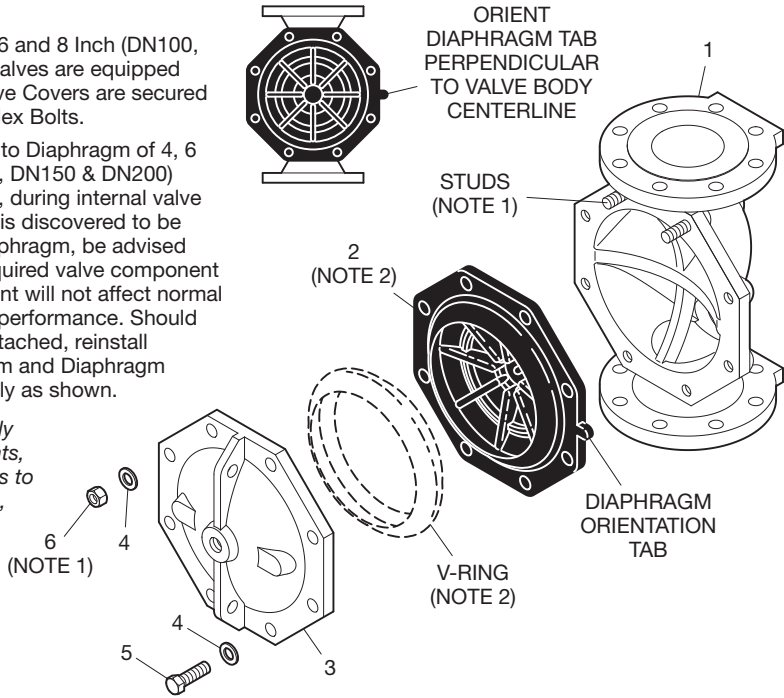

FIGURE 1
Components for the 2 to 8 inch (DN50 to DN200), DV-5 Deluge Valves are shown in Figure 1. The DV-5 Valves are for vertical or horizontal installations, and they are rated for use at a maximum service pressure of 250 psi (17,2 bar).
Step 1. Align Diaphragm and Diaphragm Cover in proper orientation with valve body (Ref. Figure 1) and hold in place